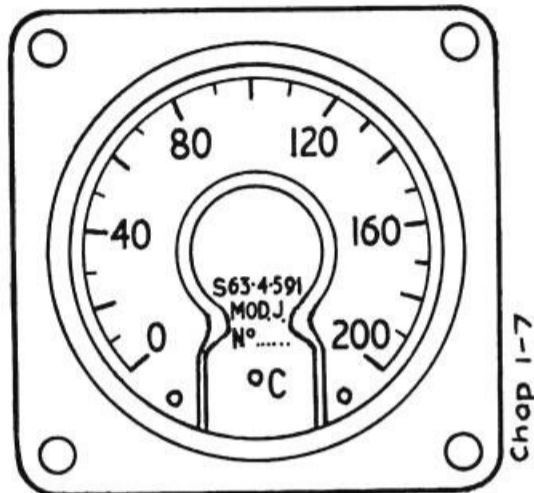

Fig. 1. Indicator, Type S63.4.591
1. This indicator (Ref. No. 6A/3927) (*fig. 1*) is calibrated in degrees C from 0 to 200; the indicator is controlled by variation of temperature in a resistance bulb which obeys a platinum law.